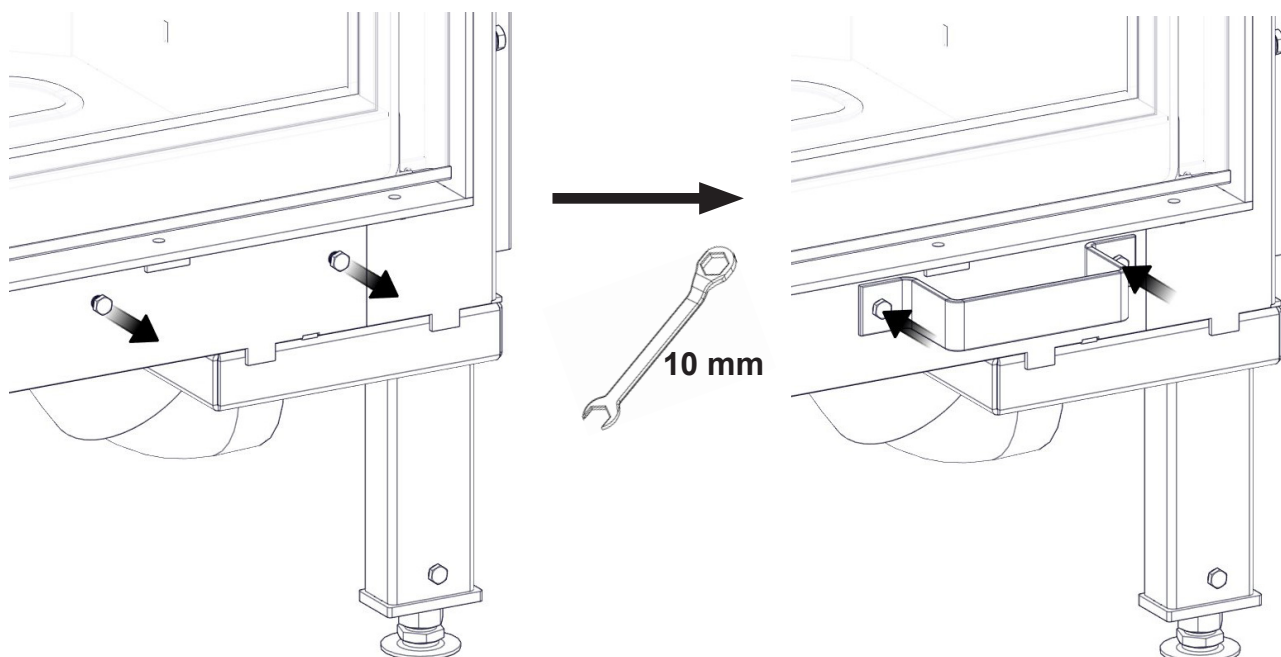

**FIG 5** Davos U High\_N-29U
**FIG 5 a** Davos U High\_N-29U